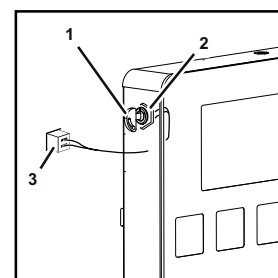

Fig. 33
1. Disconnect the electrical cable (Fig. 33/3) (cable no. 2) of the key switch (Fig. 33/1).
2. Remove the nut (Fig. 33/2) of the key switch (Fig. 33/1).
3. Remove the (Fig. 33/1) key switch from the unit.
4. Position the new key switch (Fig. 33/1) within the unit.
5. Attach the key switch (Fig. 33/1) using the nut (Fig. 33/2) in the unit.
6. Connect the electrical cable (Fig. 33/3) (cable no. 2) of the key switch (Fig. 33/1).